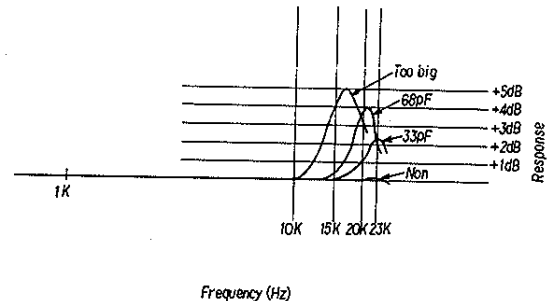

Fig. 7.20
- (5) Load a 15KHz P.B.F.R. tape (DA09002A) and play it back.
- (6) If the output of 15KHz shows the value within  $\pm$ 2dB, it shall be considered satisfactory.
- (7) Load a 20KHz P.B.F.R. tape (DA09001A) and play it back.
- (8) If 15KHz at (5) shows the value within  $\pm$ 2dB and 20KHz being less than -3dB, check shall be made on C101, 201 with 0 - 220PF. Refer to Fig. 7.20. "Compensation of Playback High Frequency Response".
- (9) Adjustment shall be made so that 10KHz, 15KHz and 20KHz will become flat when compared with 400Hz.
- (10) If the results are shown to belong to high, set R101, 201 to open -220K ohms.
- (11) Adjust the azimuth alignment to the maximum output with a 15KHz azimuth alignment tape (DA09004A).